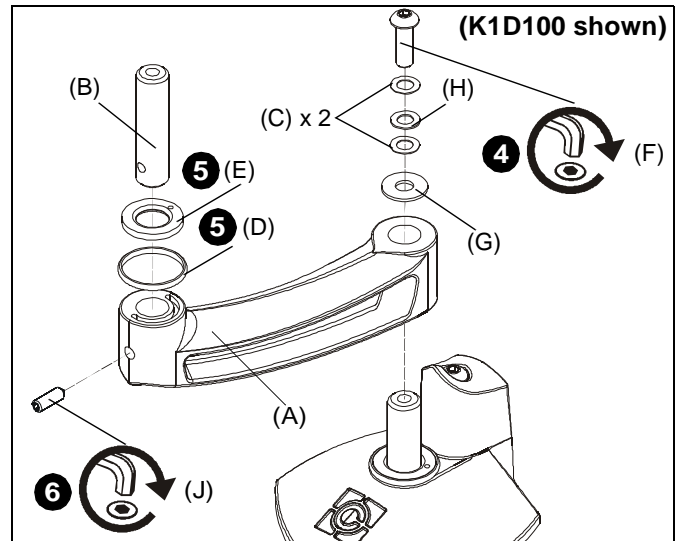

Figure 2
4. Use 5/16-18 x 1" button head cap screw (F), two steel washers (C), plastic washer (H) and 5/16" washer (G) to secure KRA208 arm (A) to pin on base of Kontour™ mount. Follow the exact order shown in Figure 2. (See Figure 2)
5. Place chrome ring (D) and pivot ring (E) on outer hole of extension arm (A). (See Figure 2)
6. Use 1/4-20 x 3/4" set screw (J) to secure pivot pin (B) to extension arm (A). (See Figure 2)